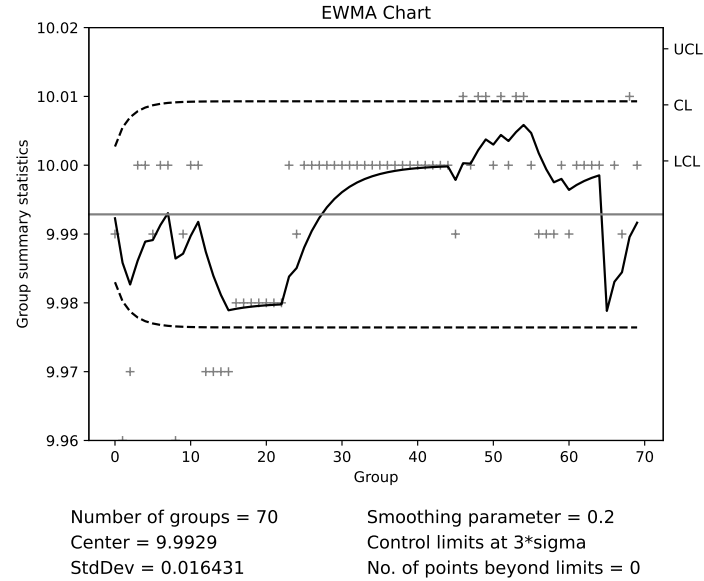

Fig. 3.9: EWMA chart for the Diameter 1
**Solution 3.23** In Fig. 3.9, we see the EWMA control chart for Diameter 1. The mean and standard deviation are  $\bar{X} = 9.993$  and  $S = 0.0164$ . The target value for Diameter 1 is 10 mm. Notice in the chart that after a drop below 9.98 mm the machine corrects itself automatically, and there is a significant run upwards towards the target value. Using the EWMA chart an automatic control can be based on Eq. 9.8.11.